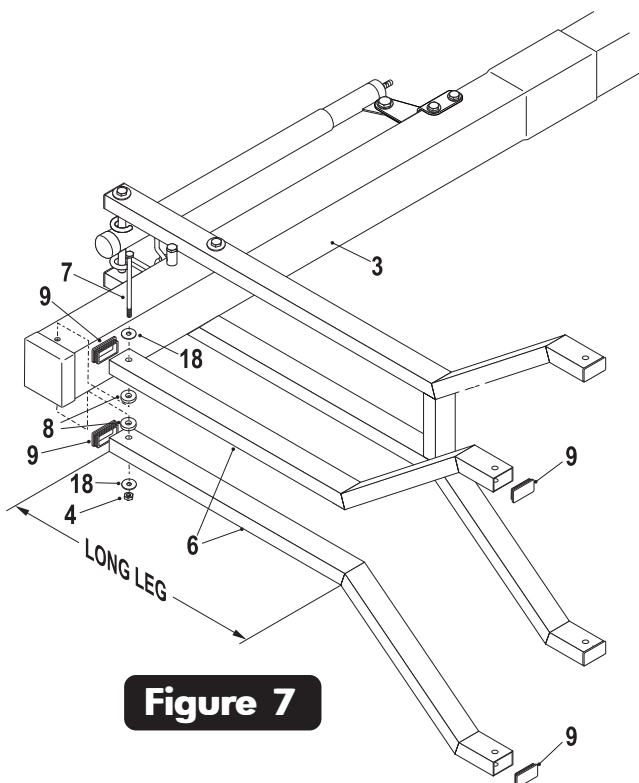

Figure 7
- Attach long leg of Upper Arms (#6) to Top Pole (#3), as shown in Figure 7, using a bolt (#7), two flatwashers (#18), two spacers (#8) and one lock nut (#4).